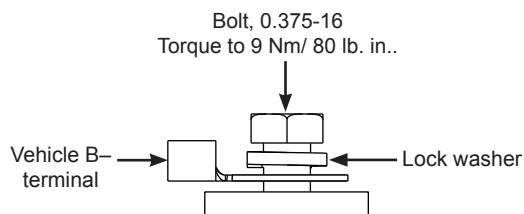

Figure 3: B- Terminal Hardware Stacking Order
8. Connect vehicle B- cable to alternator B- terminal. Install cable hardware in stacking order shown in Figure 3. Torque B- terminal bolts to 9 Nm/80 lb. in.